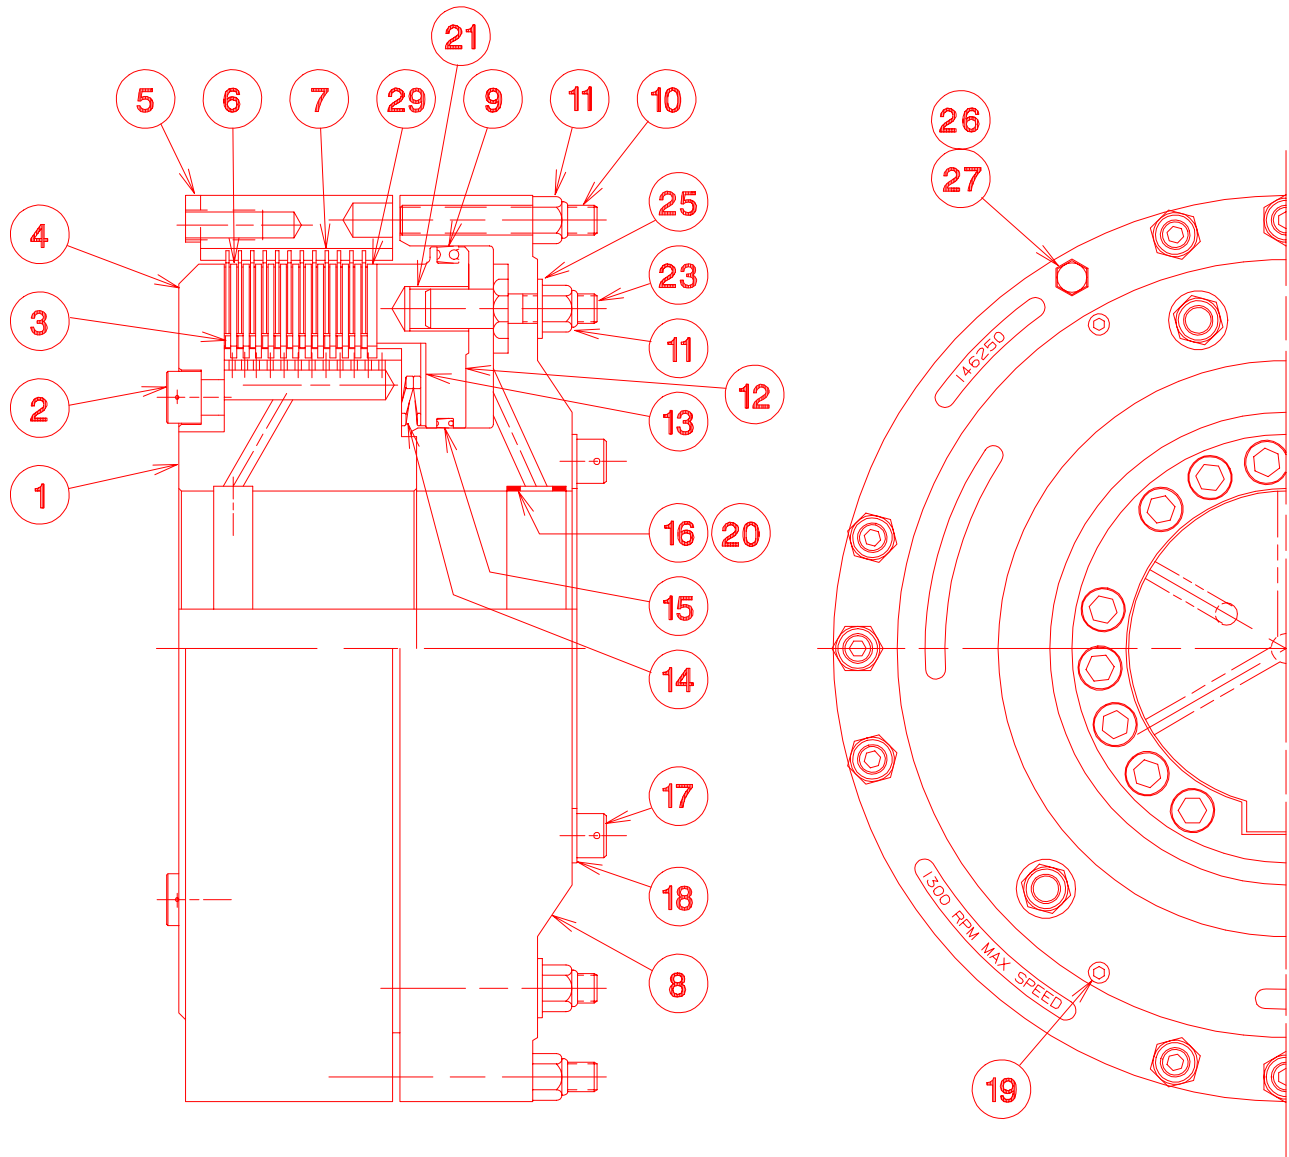

Figure 1
1.2.1 Referring to Figure 1, the CH is mounted to the driving shaft, and is connected to the driven shaft via an adapter attached to the drive ring (5). Air or hydraulic actuating pressure, along with cooling oil (if applicable), is supplied through a passage(s) in the driving shaft.